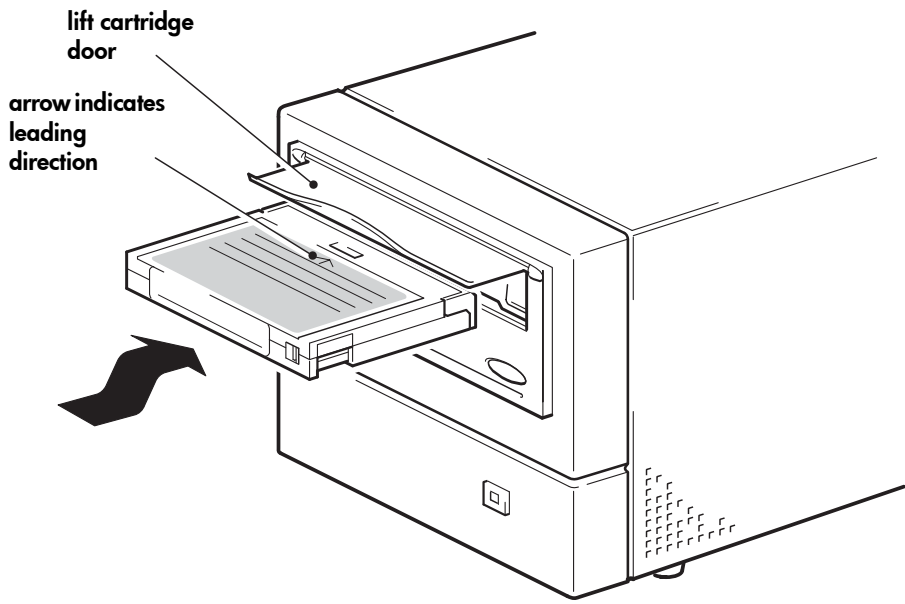

Figure 7a: loading a cartridge
- 1 Lift the cartridge door on the front of the tape drive and insert the cartridge into the slot in front of the drive with the white arrow uppermost and facing the drive door. Apply gentle pressure until the drive takes the cartridge and loads it. (See figure 7a.)